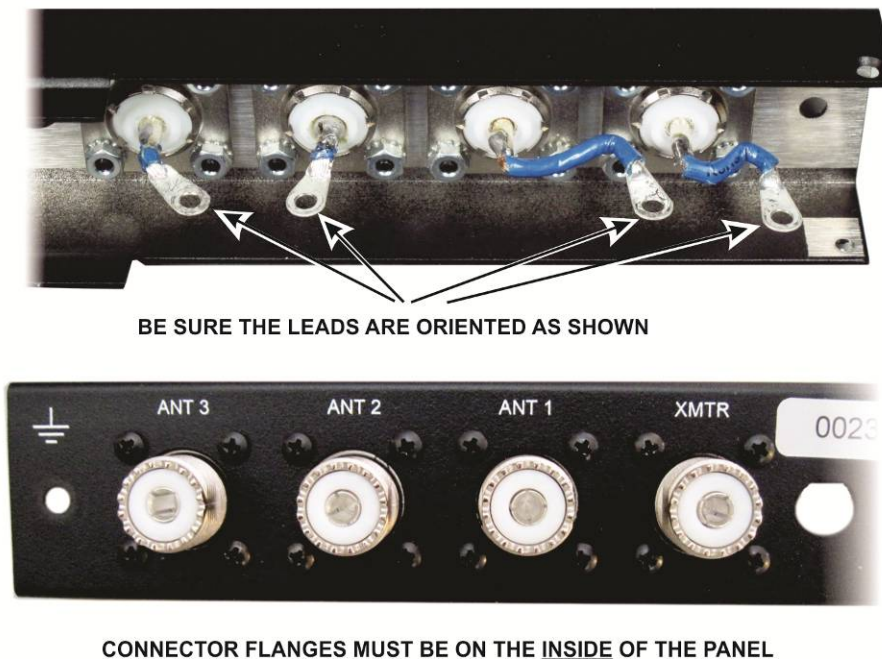

Figure 24. SO-239 Connectors Installed.
□ In the same manner, install the remaining SO-239 connectors on the rear panel, starting with the ANT3 connector at the end. Orient the connectors so the leads are as shown in Figure 24 and with the connector flanges on the inside of the rear panel.